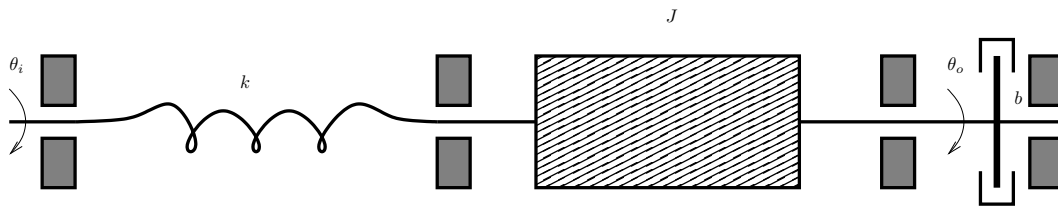

Figure 4: A second order rotational system
4. Use Newton's second law to obtain a mathematical model for the second order rotational system shown in Figure 4. The input to the system is the angle  $\theta_i$  and the output is the angle  $\theta_o$ . Suppose that  $k = 200$  Nt.m/rad,  $J = 200$  Kg.m2, and  $b = 500$  Nt.m2.s/rad. What is the time response of the system to  $\theta_i(t) = u(t) - u(t - 0.1)$ ?